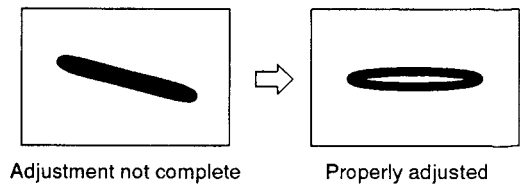

Fig. 1
5. Adjust VR604 so that the Lissajous figure is symmetrical on both the X-axis and Y-axis of the oscilloscope. (Fig. 1)